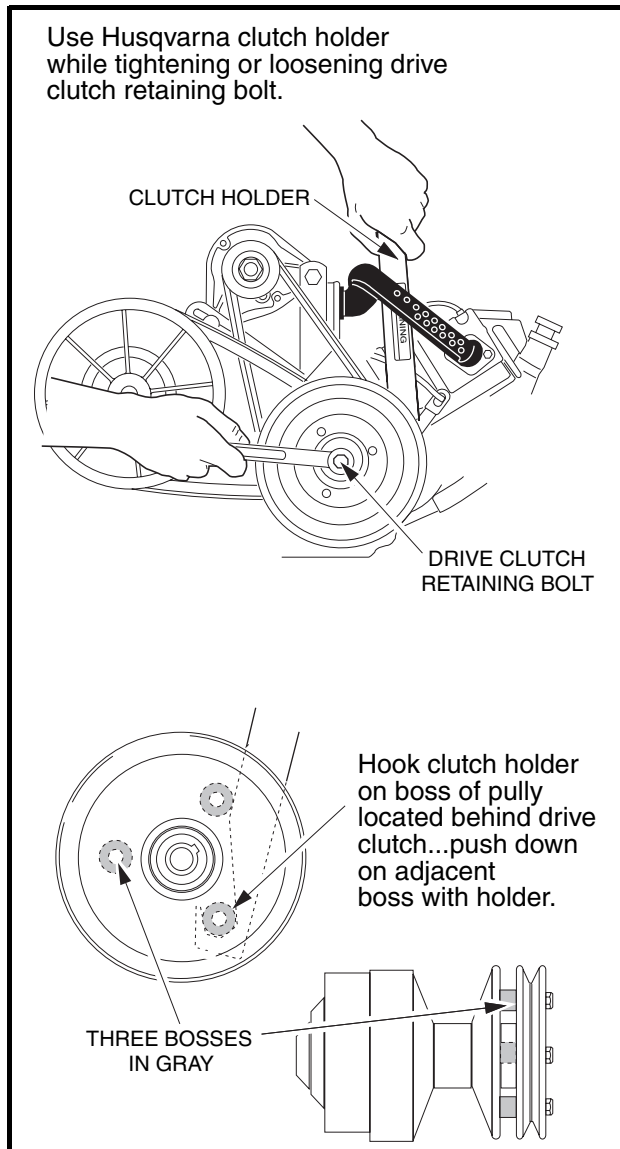
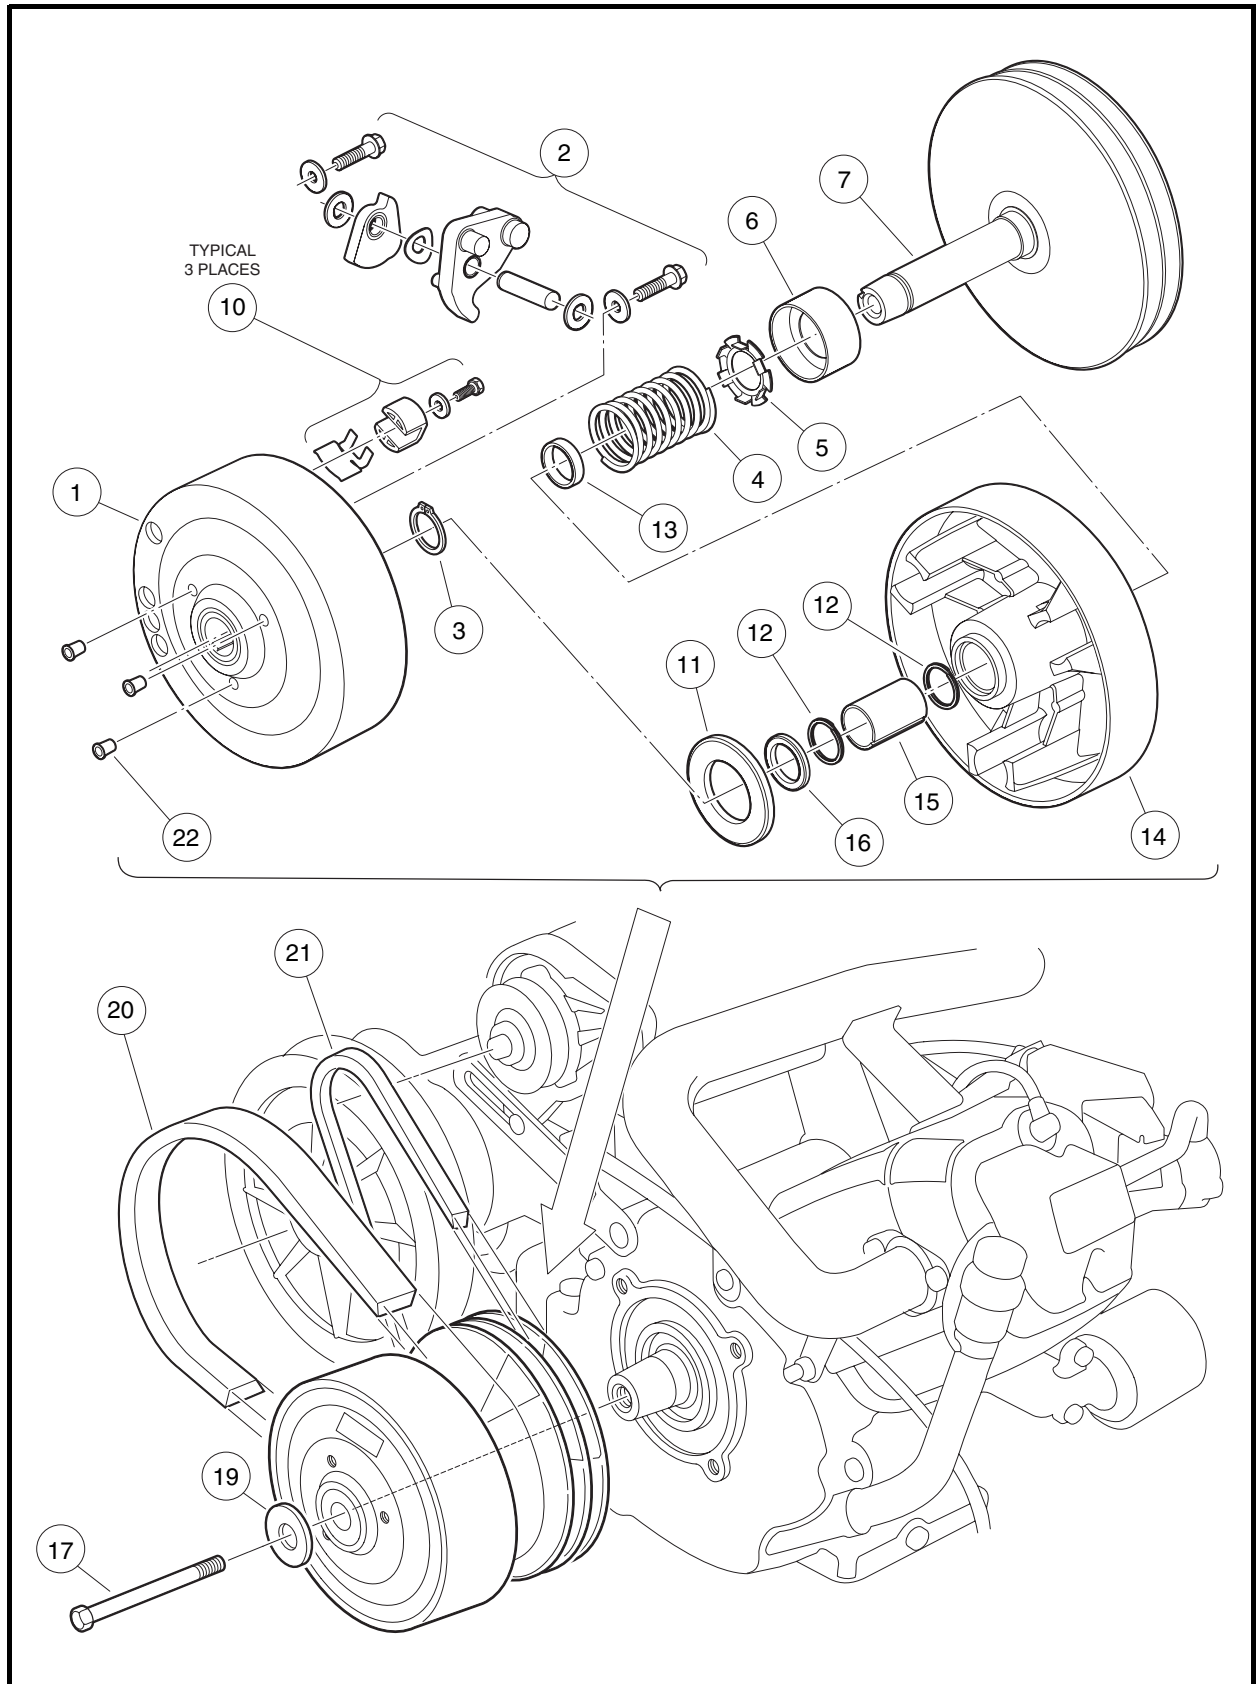
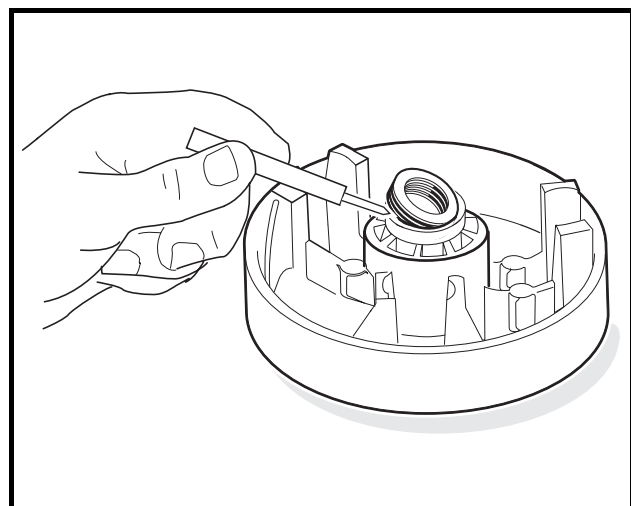

Figure 20-3 Loosen Retaining Bolt
Figure 20-5 Drive Clutch Assembly
Figure 20-13 Spiral Back-up Rings
3. If cleaning the driven clutch does not solve the problem, disassemble and thoroughly clean all parts of the drive clutch. Be sure to clean the plastic drive buttons (10) (**Figure 20-5, Page 20-6**).
4. Remove the drive clutch retaining bolt (17) and mounting washer (19) (**Figure 20-5, Page 20-6**) See also **Figure 20-3, Page 20-4**. See following **NOTE**.
- **Use only a dry cloth to lightly wipe the shaft of the fixed face assembly (7) (Figure 20-5, Page 20-6). Do not use a brush or steel wool. These will damage the surface of the shaft.**
2. Remove the drive clutch hub (1) (Figure 20-5, Page 20-6):
- 2.1. Remove the three plugs (22) from the clutch puller attachment holes (Figure 20-5, Page 20-6).
3. Remove the thrust washer (11) from the moveable face (14) (Figure 20-5, Page 20-6).
- Remove the retaining ring (3) from the shaft of the fixed face assembly (7) and slide the moveable face (14) off the shaft (**Figure 20-5, Page 20-6**). See following **NOTE**.
NOTE: If the moveable face is removed from the hub of the fixed face, the spiral back-up rings (12) must be replaced with new ones (**Figure 20-5, Page 20-6**).
- Remove the spacer (16), and spring (4) and retainer (5). The spring retainer can be removed from the spring if necessary (**Figure 20-5, Page 20-6**).
- Use a scribe or small pick to remove the spiral backup rings (12) from each end of the bore in the fixed face assembly (**Figure 20-5, Page 20-6**). See also **Figure 20-13, Page 20-9**. Discard the rings.
- Inspect the idler bearing (6) for smooth rotation or seal damage (**Figure 20-5, Page 20-6**). See following **NOTE**.
- Inspect the bore of the moveable face assembly (14) for scarring or wear. The moveable face assembly must be replaced if the bore is worn to a diameter of 0.883 inch (22.4 mm) or larger (**Figure 20-5, Page 20-6**).
- Inspect the steel shaft (7) on the fixed face assembly. There should be no measurable wear anywhere on the shaft. Replace the shaft if it is worn, scratched, or damaged.
- Inspect the thrust washer (11) for wear. If it is worn more than 0.030 inch (0.76 mm), turn it over or replace it with a new one.
- Inspect the primary weights (2) and the hub casting for wear. If the primary weights show signs they are touching the casting, the tips of the weights have worn beyond specification and they must be replaced.
6. Inspect the pins on the primary weights (2). There should be no measurable wear. Replace them if they are worn, scratched, or damaged.
1. Press idler bearing (6) onto the shaft of the fixed face assembly (7). Press on the inner race of the bearing only. Make sure that the cup side of bearing is facing away from the fixed face (**Figure 20-5, Page 20-6**).
2. Using needle nose pliers, install the spring retainer (5) onto the spring (4).
3. Install the spring (4) and retainer (5) into the cup of the idler bearing (6).
4. Install the spacer (13) onto the shaft of the fixed face.
5. Install a new spiral backup ring (12) in each end of the bore of the moveable face assembly (14).
6. Install the moveable face assembly (14) onto the shaft of the fixed face assembly (7).
- 6.2. Install the retaining ring (3) (**Figure 20-5, Page 20-6**).
12. Install the 1/4-20 bolts and washers (2) and tighten them to 10 ft-lb (13 N·m) (**Figure 20-5, Page 20-6**).
16. Install the thrust washer (11) onto the moveable face assembly (**Figure 20-5, Page 20-6**).
17. Install the hub assembly (8) on the moveable face assembly and align the match marks made before disassembling the clutch. Press the hub assembly on by hand.
18. Replace the three plastic plugs (22) into the hole protectors (**Figure 20-5, Page 20-6**).
1. Place the drive clutch assembly on the crankshaft taper. Position the mounting washer (19) on the bolt (17) and start the bolt into the crankshaft (**Figure 20-5, Page 20-6**). See following **NOTE**.
2. Tighten the drive clutch retaining bolt (17) to 25 ft-lb (33.9 N·m) (**Figure 20-5, Page 20-6**).